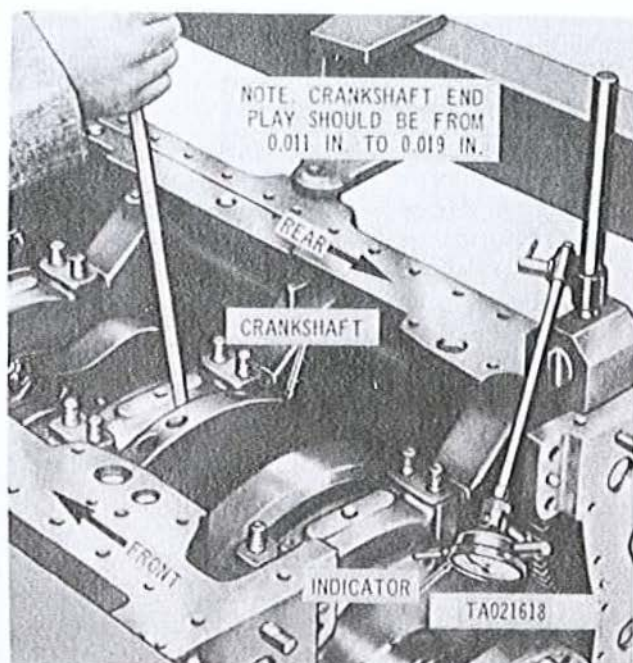

Figure 3-310. Checking crankshaft end play.
k. Mount a dial indicator (fig. 3-310) on crankcase so indicator point contacts drive gear flange on crankshaft. Using a heavy duty screwdriver, wedge between main bearing cap and crankshaft counterweight, push crankshaft toward front end. Set indicator on zero reading ("O"). Using a heavy duty screwdriver, push crankshaft toward the rear of crankcase and check indicator end play reading. End play should be from 0.011 to 0.019 inch. When end play exceeds 0.019 inch, remove bearing caps and crankshaft. Install new main thrust bearing halves. Install bearing cap and recheck thrust bearing bore (para 3-45d). Then install bearing halves and crankshaft, and recheck end play to make sure it is within limits.